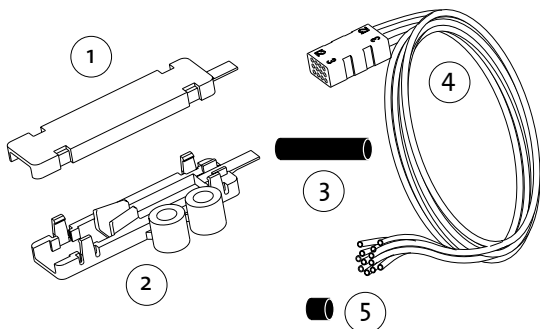

Figure 2
4.1 Each 12 f Ribbon Fan-out kit contains the following (Figure 2):